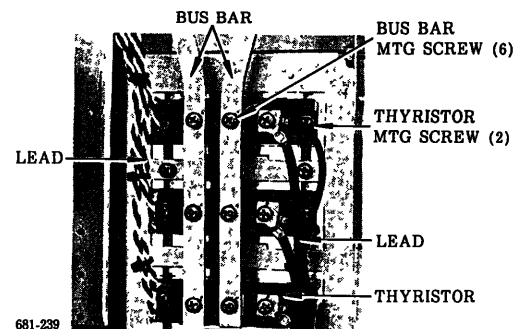

Fig. 19 Main Circuit Thyristor
1. Remove the 6 bus bar mounting screws, and remove the bus bar. The leads connected to the bus bar need not be removed. (Fig. 19)